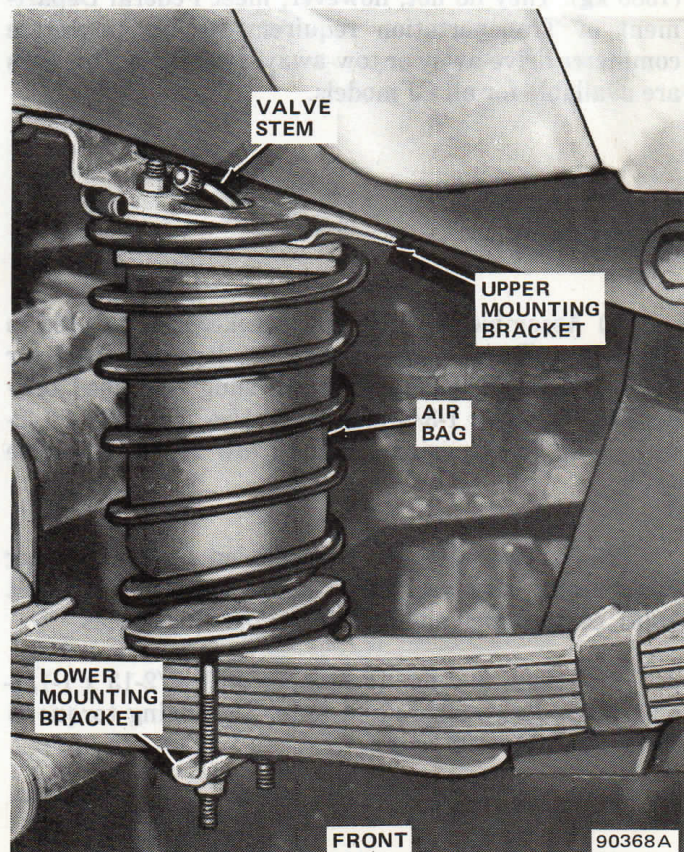

Fig. 8-7 Front Air Overload Spring—CJ Models
(1) Raise vehicle, remove front wheels and lower axle 2 to 3 inches to allow working space.
(2) Remove shock absorbers.
(3) Remove spring clamp bar and position Air Overload Spring assembly so that it straddles vehicle spring approximately 3 inches aft of axle U-bolts. Replace clamp bar and finger-tighten nuts (fig. 8-7).
(4) Raise axle or lower body until air spring bracket contacts frame. With unit vertically aligned and bracket in contact, mark location for 2 mounting holes through center front and aft holes in bracket.
(5) Repeat steps (3) and (4) on opposite side of vehicle. Lower axle and remove air overload springs.
(6) Centerpunch marked hole locations and drill 1/4-inch diameter holes. Remove excessive undercoating.
(7) Position each unit for final installation, raise axle or lower body until spring brackets contact frame and attach each bracket to frame with 2 self-tapping bolts. Tighten securely.